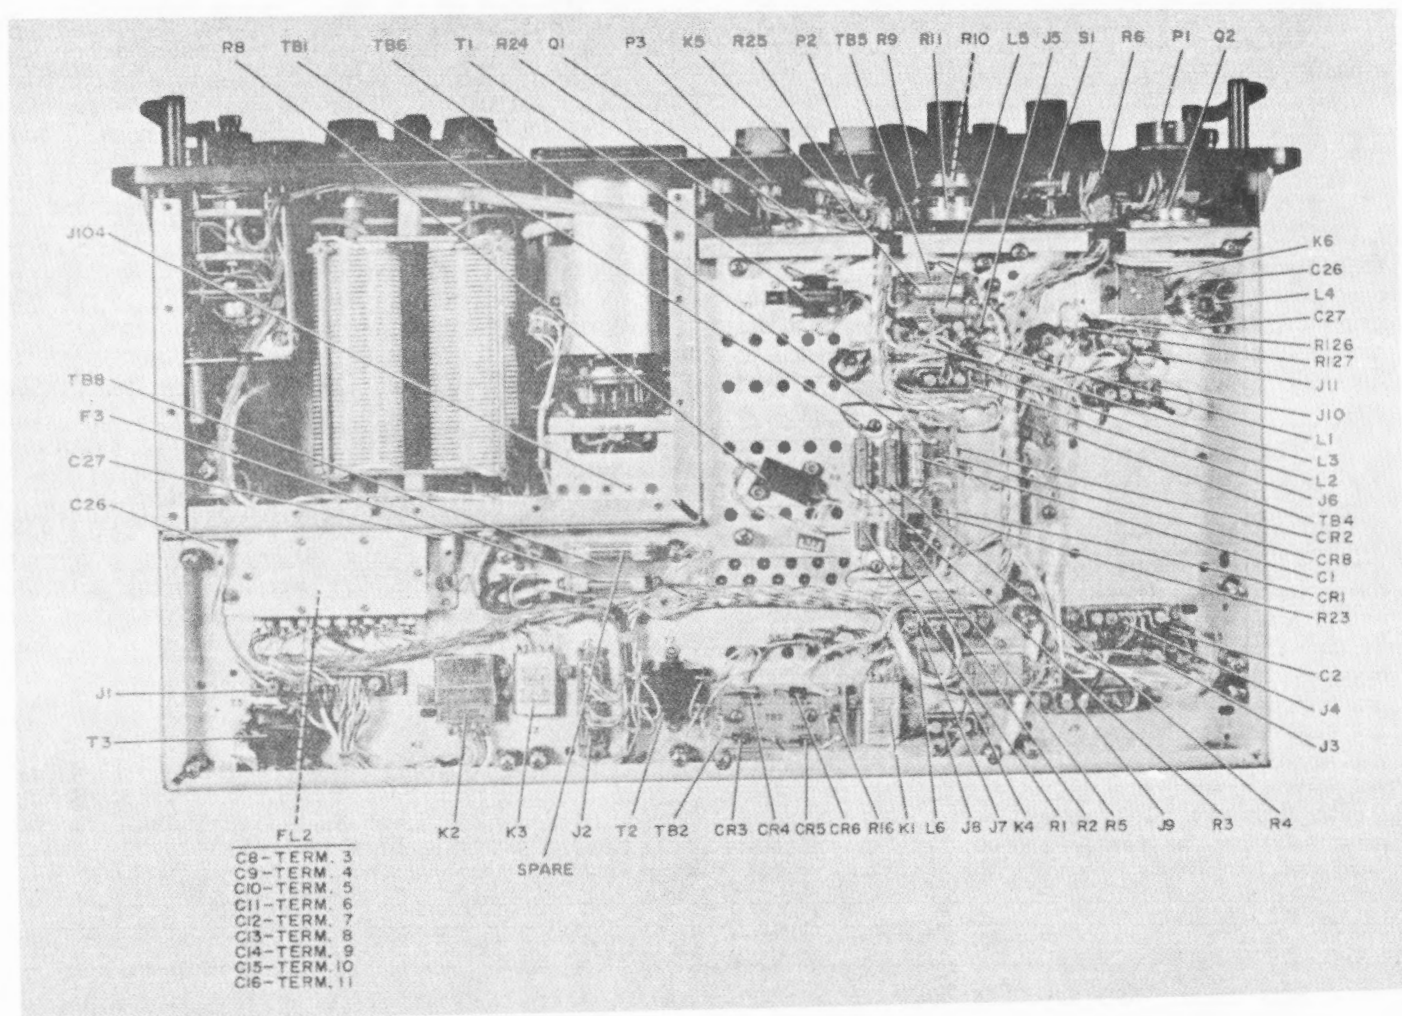

Figure 6-29. Electrical Equipment Chassis CH-474/PRC-47, Bottom View, Location of Components
j. MAIN CHASSIS. - No special repair procedures are required for the main chassis. All component parts identified with main chassis which must be replaced can be removed simply by unsoldering any interconnecting wiring and removing any component part mounting hardware. Figure 6-29 shows the location of component parts on the main chassis. If it is necessary to remove the front panel from the main chassis, perform the following steps:
(1) Remove retaining nuts from front panel mounted cable connectors (two AUDIO receptacles and POWER receptacle).
(2) Remove top and bottom covers from power amplifier compartment.
(3) Disconnect and remove all switches and knobs mounted on front panel.
(4) Unsolder wires to front panel fuses, pilot lamps, and the XMTR OUTPUT meter. Tag the wires so that they can be reconnected correctly during reassembly.
(5) Remove the power amplifier tube (refer to paragraph 6-13h(1)).
(6) Unscrew lug from rear of antenna connector (bowl insulator).